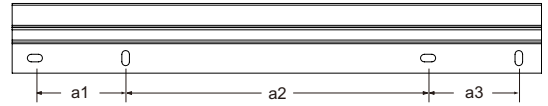

Fig.1
① Open the product packaging, and check whether the product has any cosmetic or functional damage; if yes, please return it to the dealer.
② After selecting the location of the mirror cabinet, check whether the wall is solid, measure the distance of the holes (a1,a2,a3) in the aluminum alloy bar with a tape measure and mark the wall with a level and pencil (Fig. 1).